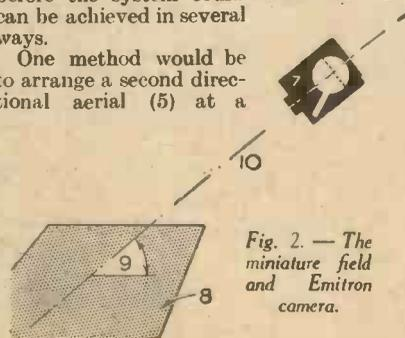

Fig. 2.—The miniature field and Emitron camera.
It transmits a signal which is picked up by the directional aerial (3) situated in the centre of the aerodrome. On the field itself, beneath the aerial, is a room containing an Emitron television camera and miniature transmitting apparatus (7) (Fig. 2). The camera would be focused on a miniature model of the aerodrome and surrounding district, as shown. The model replica of the landing field is so fixed that it will pivot round to any angle with respect to the axis (10) of the camera. This angle is made to depend on the position of the directional aerial taking up the signals